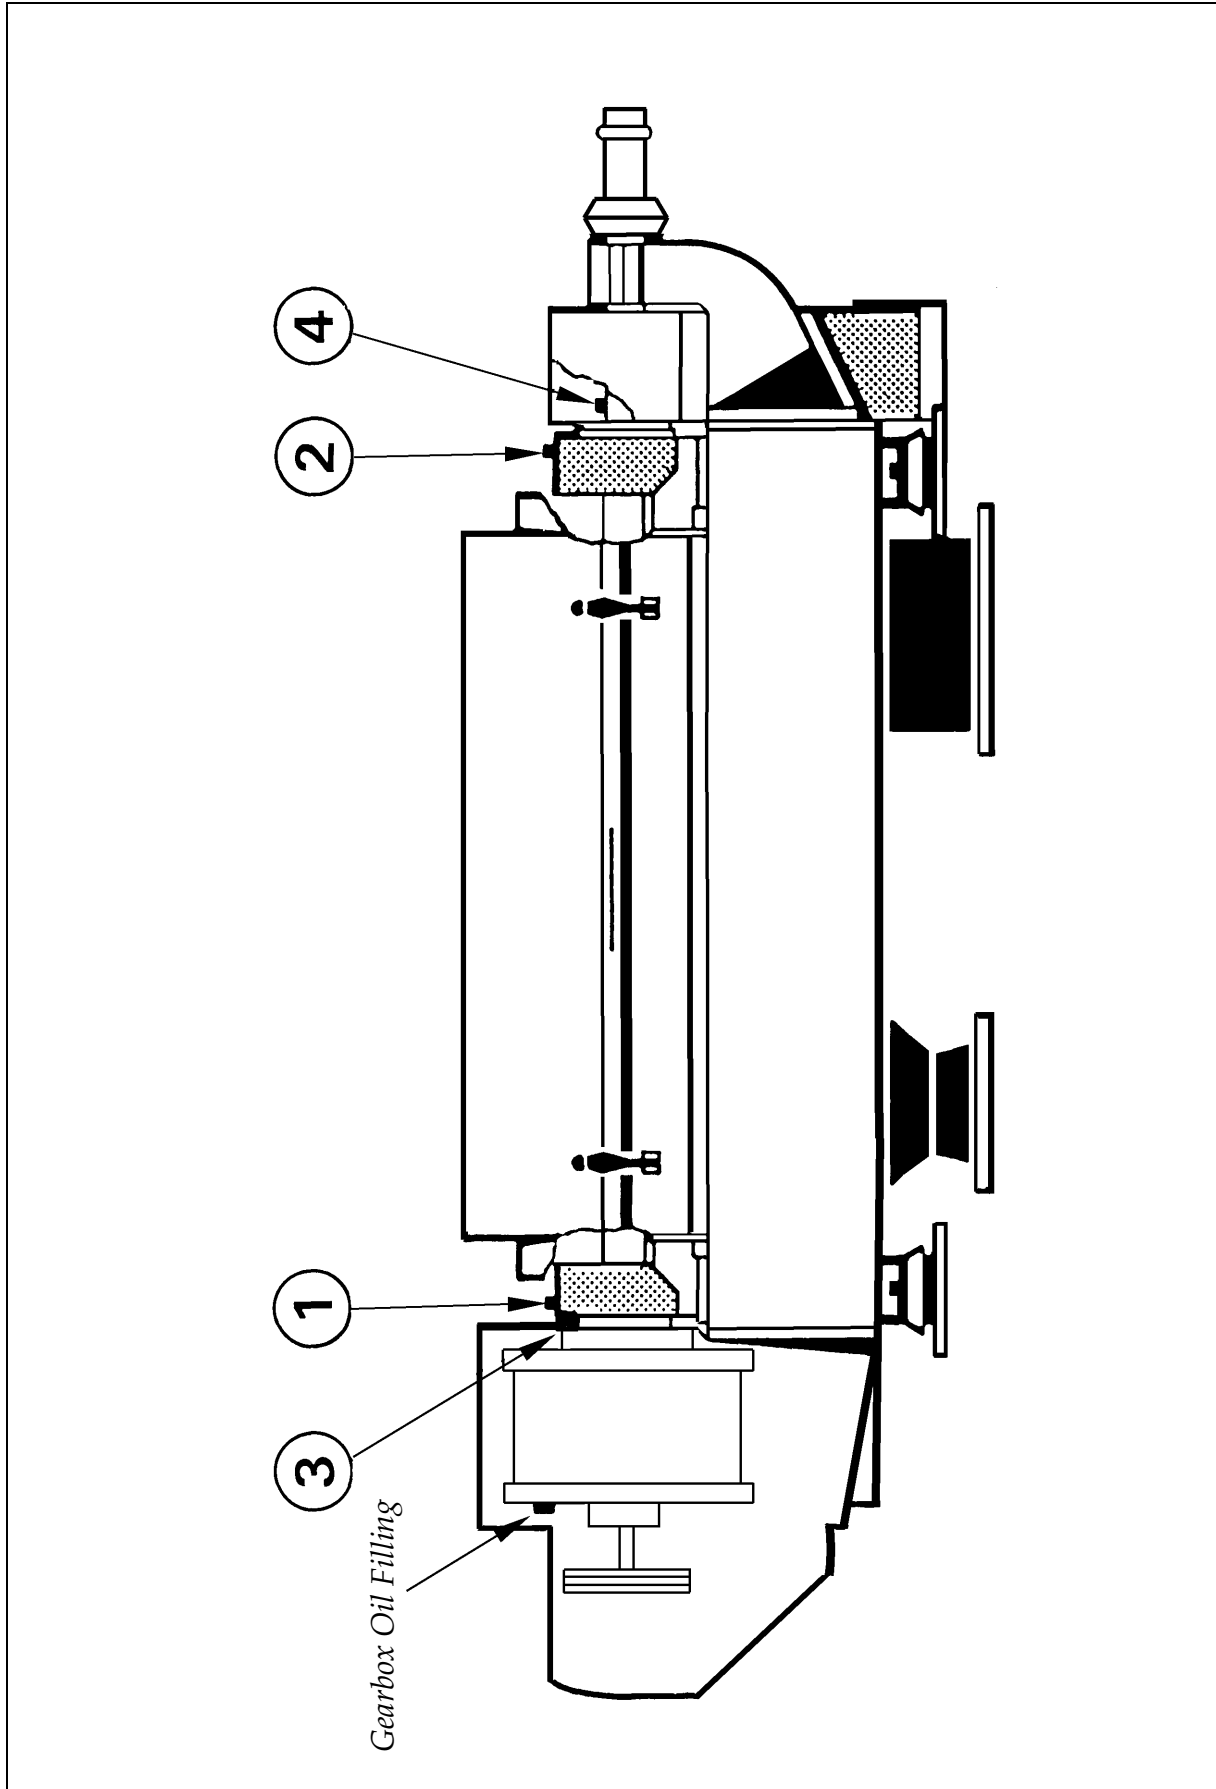

Figure 3.8.2
3.8.1 Main Bearings (Nipples 1 and 2 in Fig. 3.8.2)
3.8.2 Conveyor Bearings (Nipples 3 and 4 in Fig. 3.8.2)